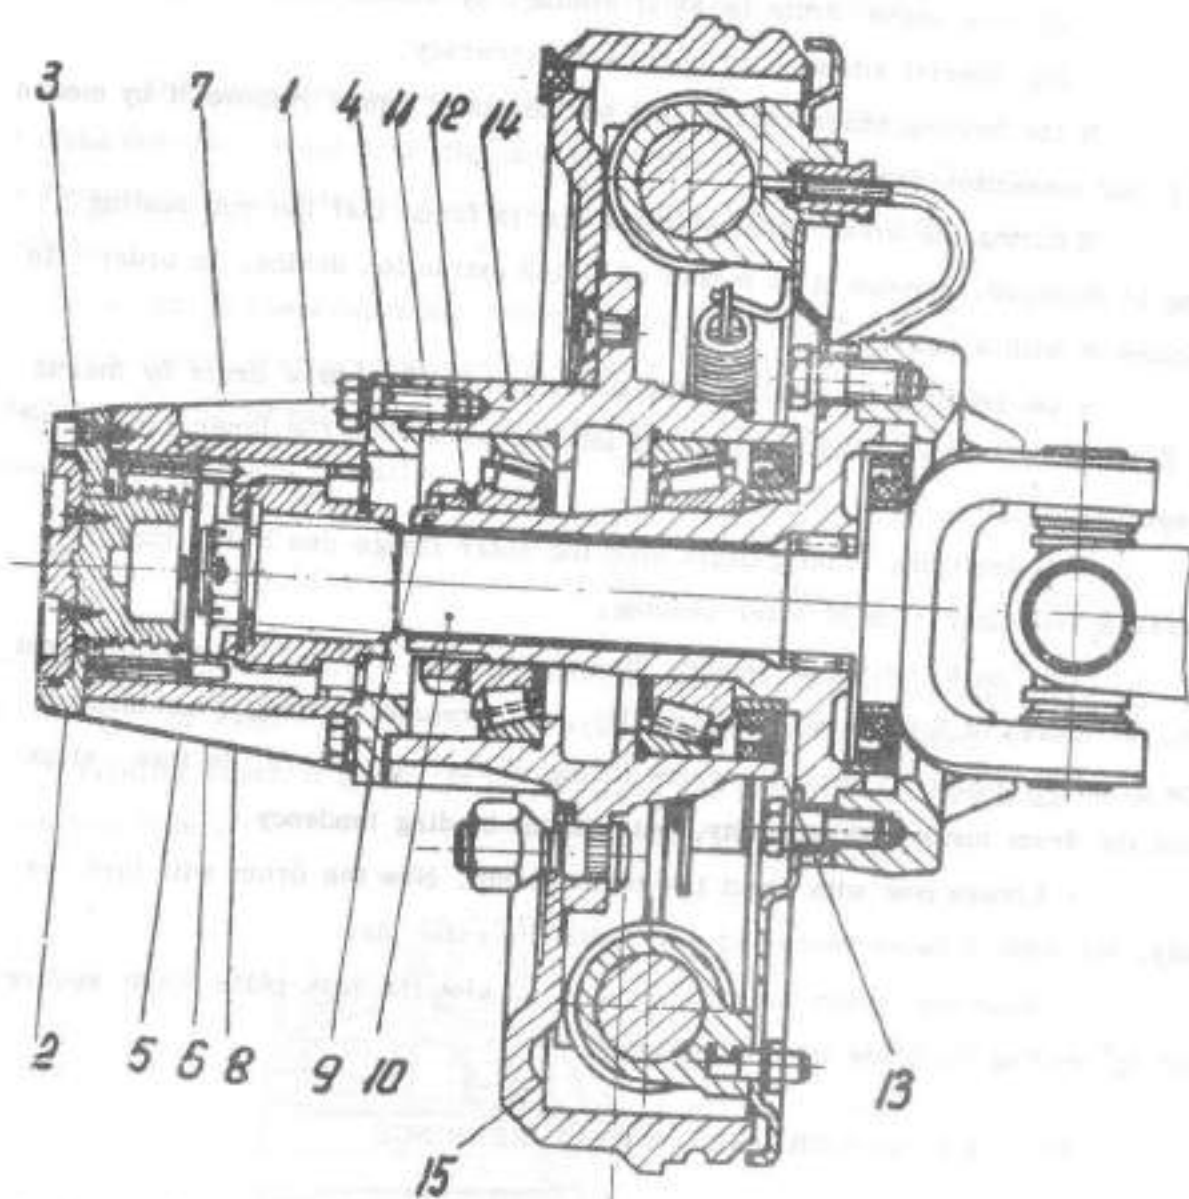

Fig. 2.11. FRONT WHEEL BRAKE DRUM KING PIN ASSY
- Unscrew bolts fastening the free wheeling hub cover and remove the cover (2) (see fig. 2.11).
- Remove the split pin (5) and unscrew the nut (6), fastening the free wheeling hub on steering knuckle (10).
- Remove snap ring (7) and thrust washer (8) by means of special S 102 nose pliers.
- Unscrew bolts (4) fastening free wheeling hub on the steering knuckle (10) and remove it by axial sliding.